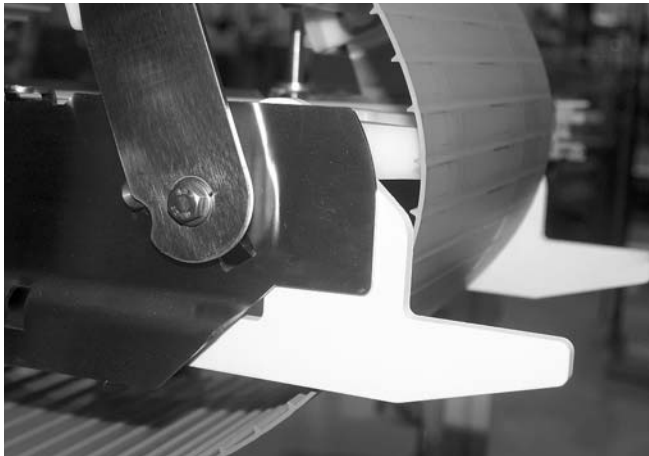

Figure 43
*Before removing, make note of the orientation of idler tail return guides as they are shown in the installed position (**Figure 43**).*